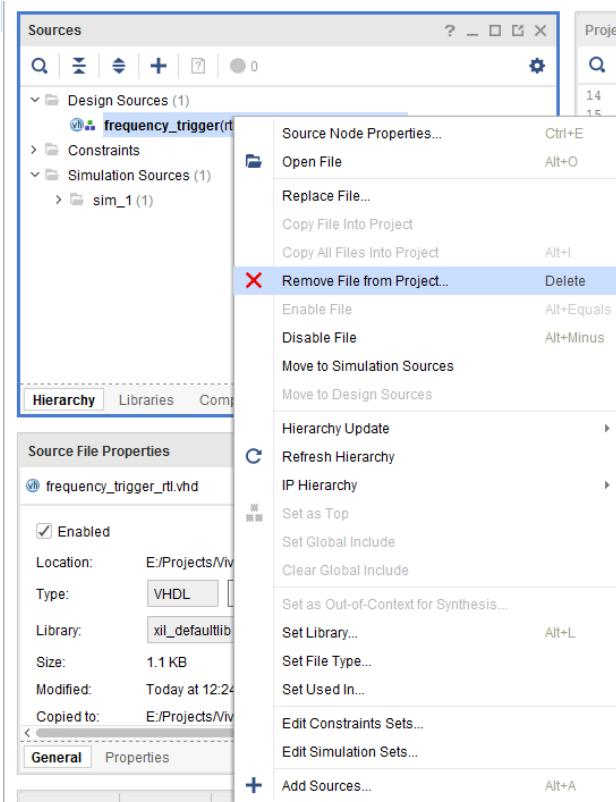

Figure 2.20: Remove File from Project option
2. Right-click on the selected file and choose **Remove File from Project...** option, see Figure 2.20.